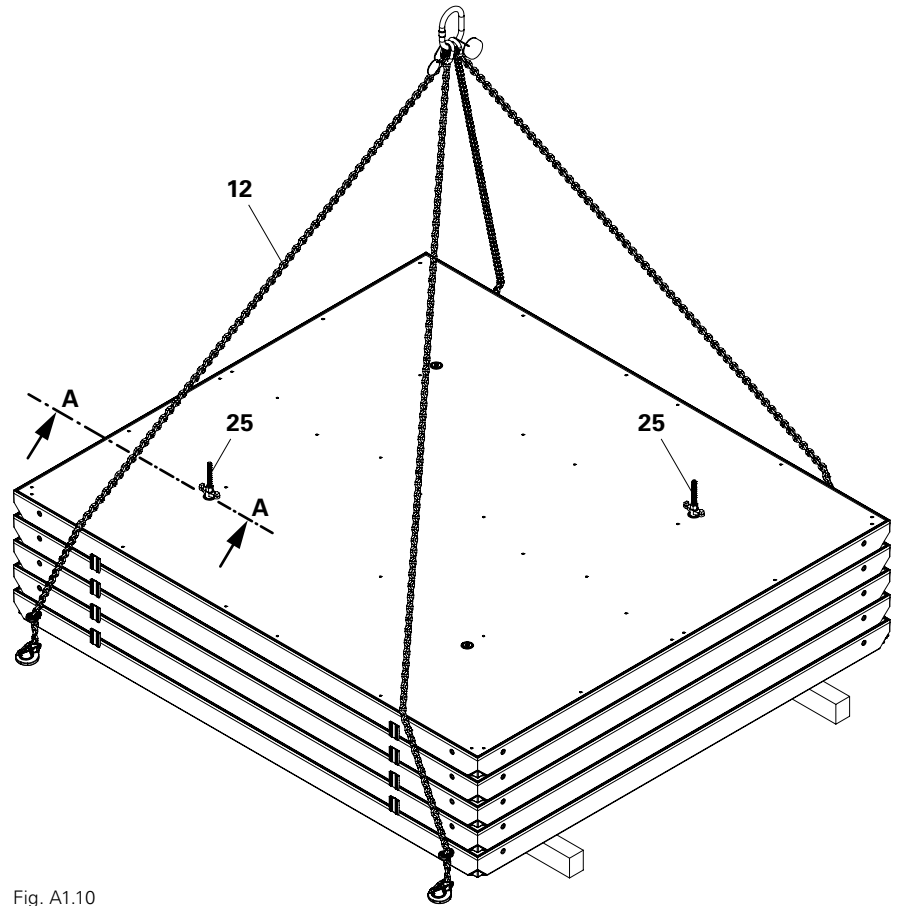

Fig. A1.10
(Fig. A1.10 + A1.11) Thereby the tie rod must be approx. 15 cm longer than the height of the stack.
6. Insert second tie rod (25) into the external tie hole which is positioned diagonally to the first tie rod. (Fig. A1.10) (For a height of 330 cm, the middle holes remain open.)